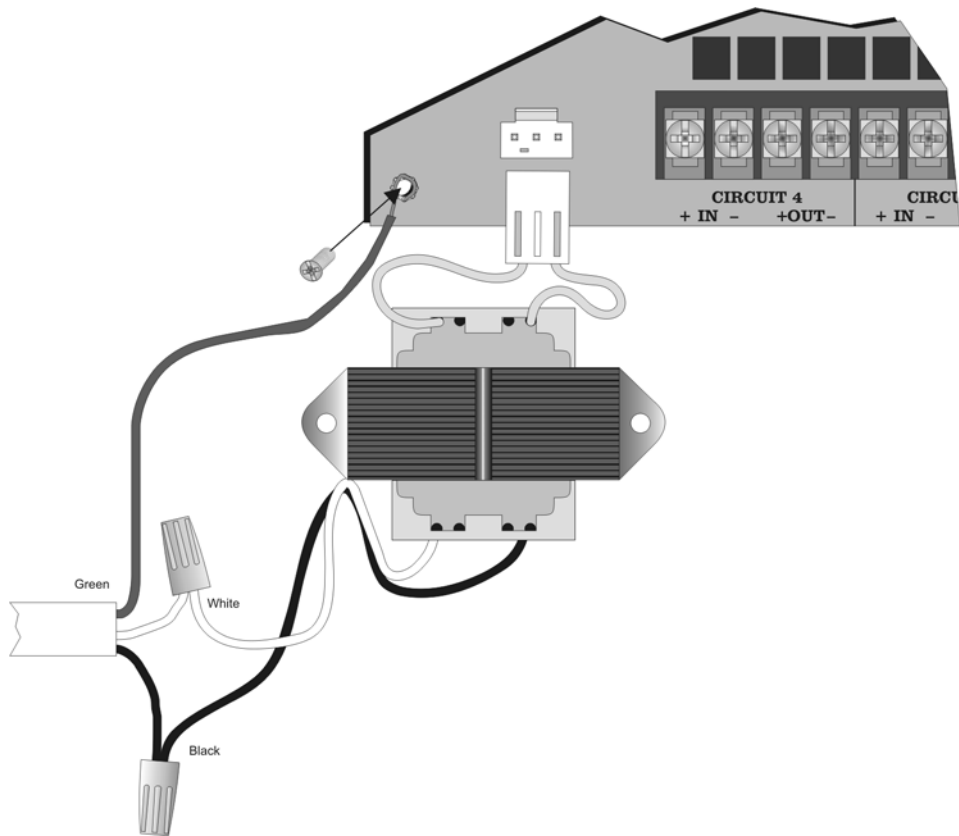

Figure 4-31 AC Connections
4. Connect AC to the Transformer as Shown in Figure 4-31.
5. Plug the transformer output to the AC connector on the control panel as shown in Figure 4-31.